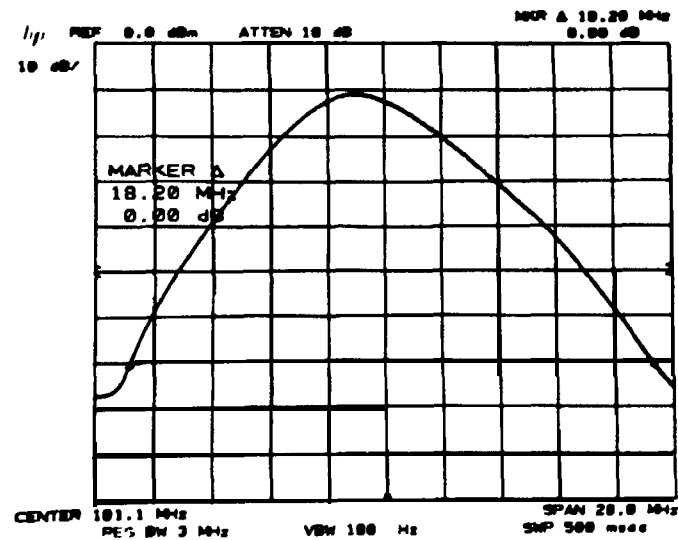

Figure 2-6. 60 dB Bandwidth Measurement
4. Press MARKER **NORMAL** and position marker at peak of signal trace. Press MARKER **A** and position movable marker 60 dB down from the stationary marker on the positive-going edge of the signal trace (the MARKER A amplitude readout should be -60.00 dB ± 1.00 dB). It may be necessary to press SWEEP **CONT** and adjust **CENTER FREQUENCY** so that both 60 dB points are displayed. (See Figure 2-6.)
6. Read the 60 dB bandwidth for the 3 MHz resolution bandwidth setting from the MARKER A frequency readout (Figure 2-6) and record the value in Table 2-6.